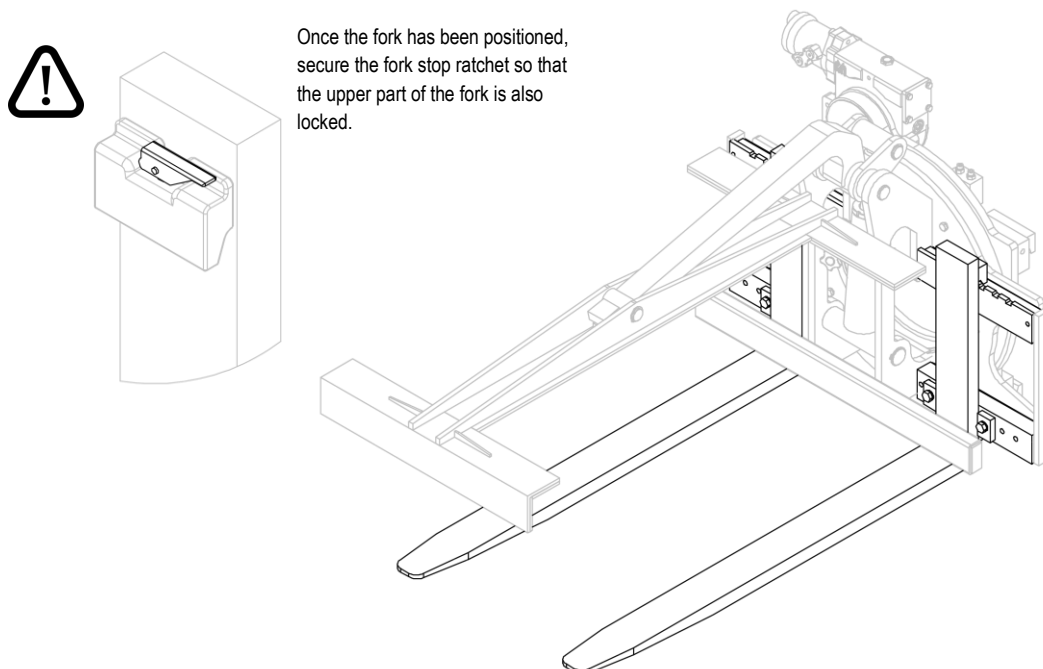

Figure 12
2. Screw in the fork stops once more (see *Figure 12*).